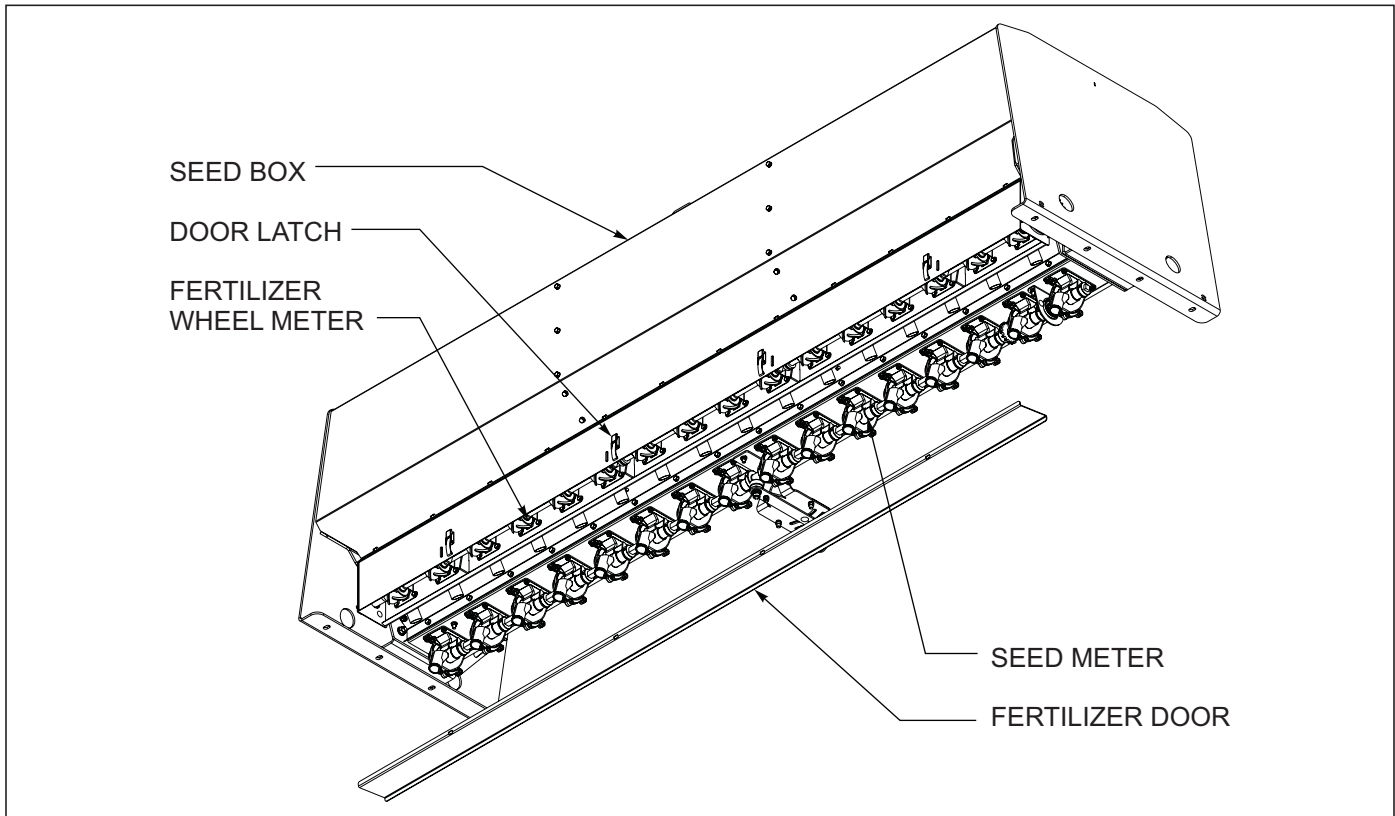

Figure 4-17: Fertilizer Box Clean Out
1. The fertilizer meters may be accessed for maintenance or cleaning by removing the door located at the bottom of the fertilizer meter assembly **See Figure 4-17.**